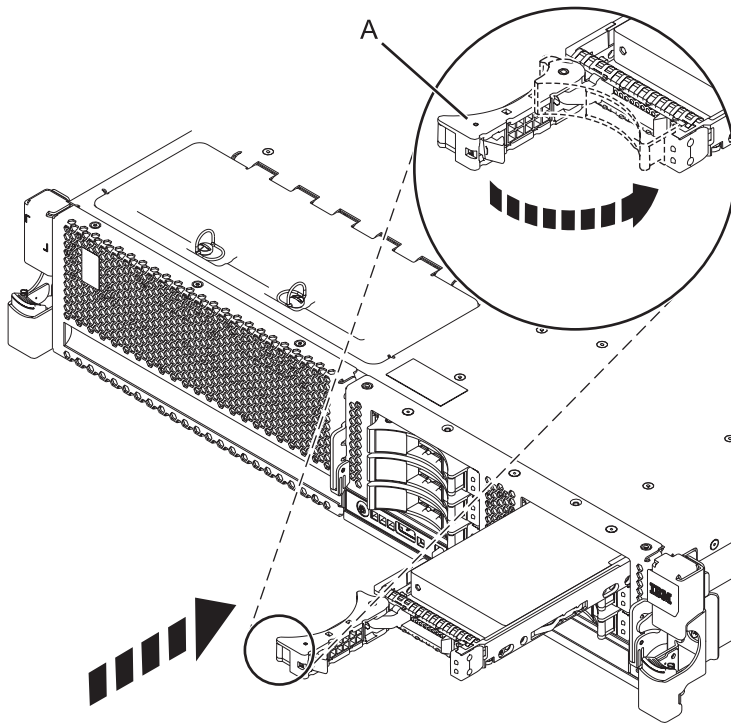

Figure 6. Installing the drive in the system
4. Slide the drive all the way into the system or expansion unit, and push the drive handle (A) in until it locks, as shown in Figure 6.